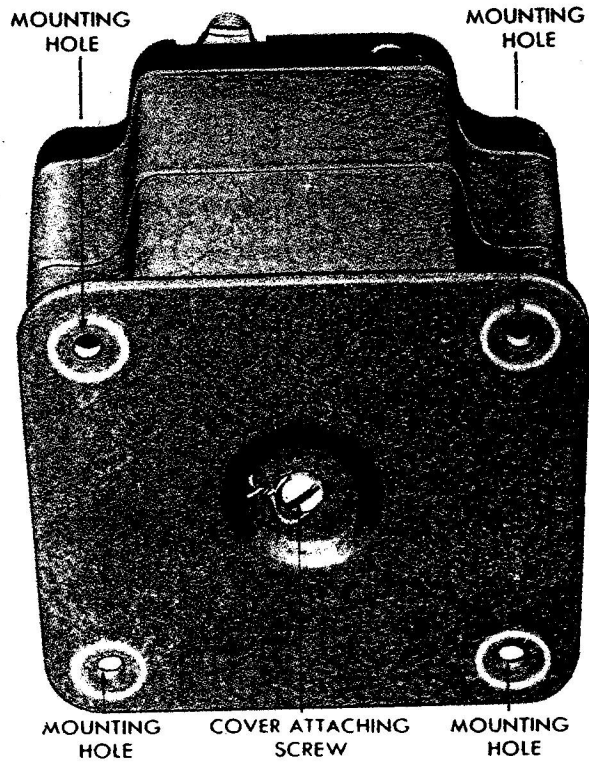

Figure 12—Cover Attaching Screw
(1) Remove safety wire from cover attaching screw. (See *figure 12*.) Remove screw and lift off generator control relay (differential) switch cover.